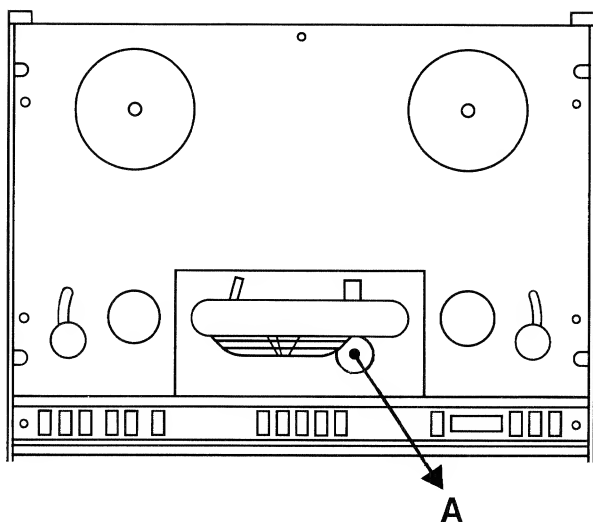

Fig. 3.3.—1
- Loosen the pinch roller solenoid and move it to the left so that an air gap from about 0.5 to 1.0 mm exists (0.02 ... 0.04") between the shaft and the clevis (fig. 3.3.—2).